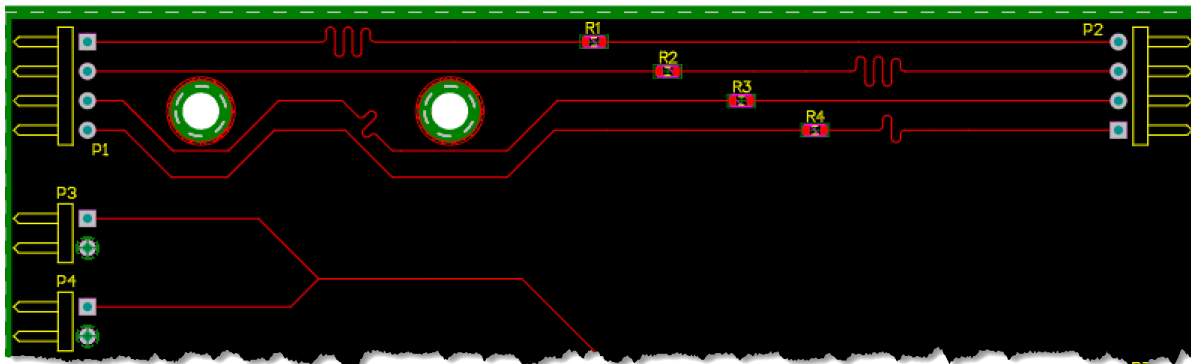

Figure 15. Series-Term xSignals with length tuning
34. Repeat the length tuning for the three remaining xSignals similar to what is shown in Figure 15